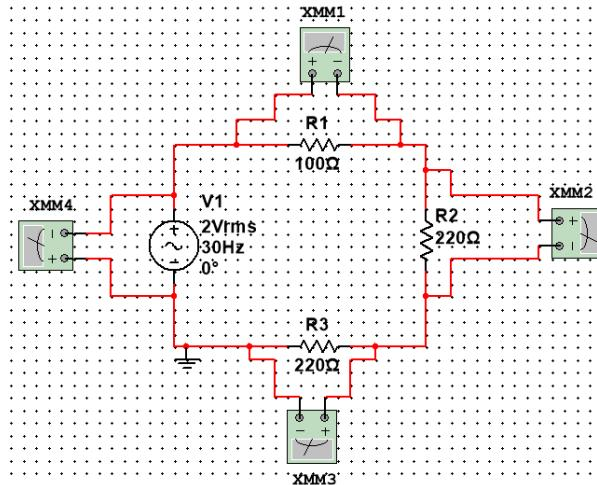

Figure 5.1: Lab #5 Basic AC KVL Circuit
- A. Simulate the circuit seen in Figure 5.1. Use the following settings for the function generator:
- 5.2A has you confirm KVL for Figure 5.1. **Does KVL apply for the measurements made in 5.3E? If KVL fails, what information are you missing that should be included?**